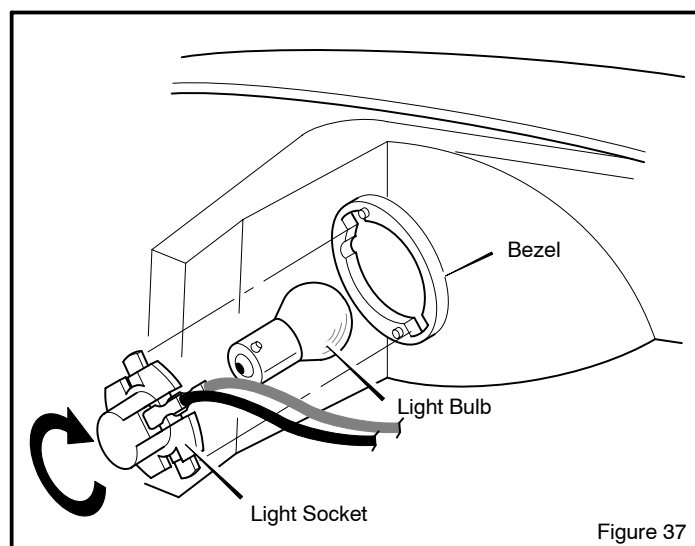

Figure 37
2. Turn the **light socket** until the tabs on the socket align with the notches in the **bezel** (Figure 37). Remove the **light socket**. Turn the **light bulb** and remove the bulb.